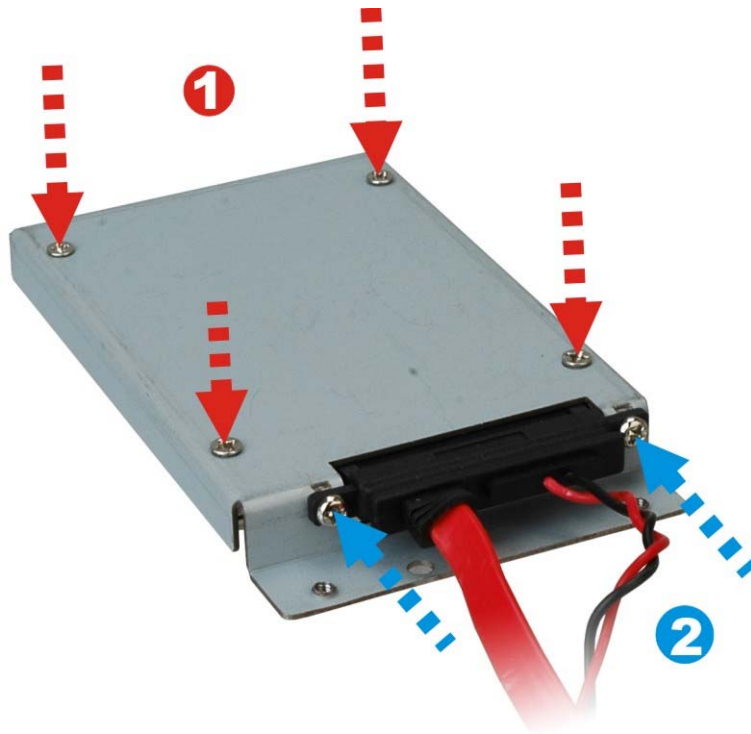

Figure 3-3: HDD Retention Screws
Step 3: Attach the HDD bracket to the HDD. Secure the HDD with the HDD bracket by fastening four retention screws (**Figure 3-3 ①**).
Step 4: Connect the SATA cable in the ECN-581A-QM57 to the HDD. Secure the SATA cable with the HDD by fastening two round head screws (**Figure 3-3 ②**).